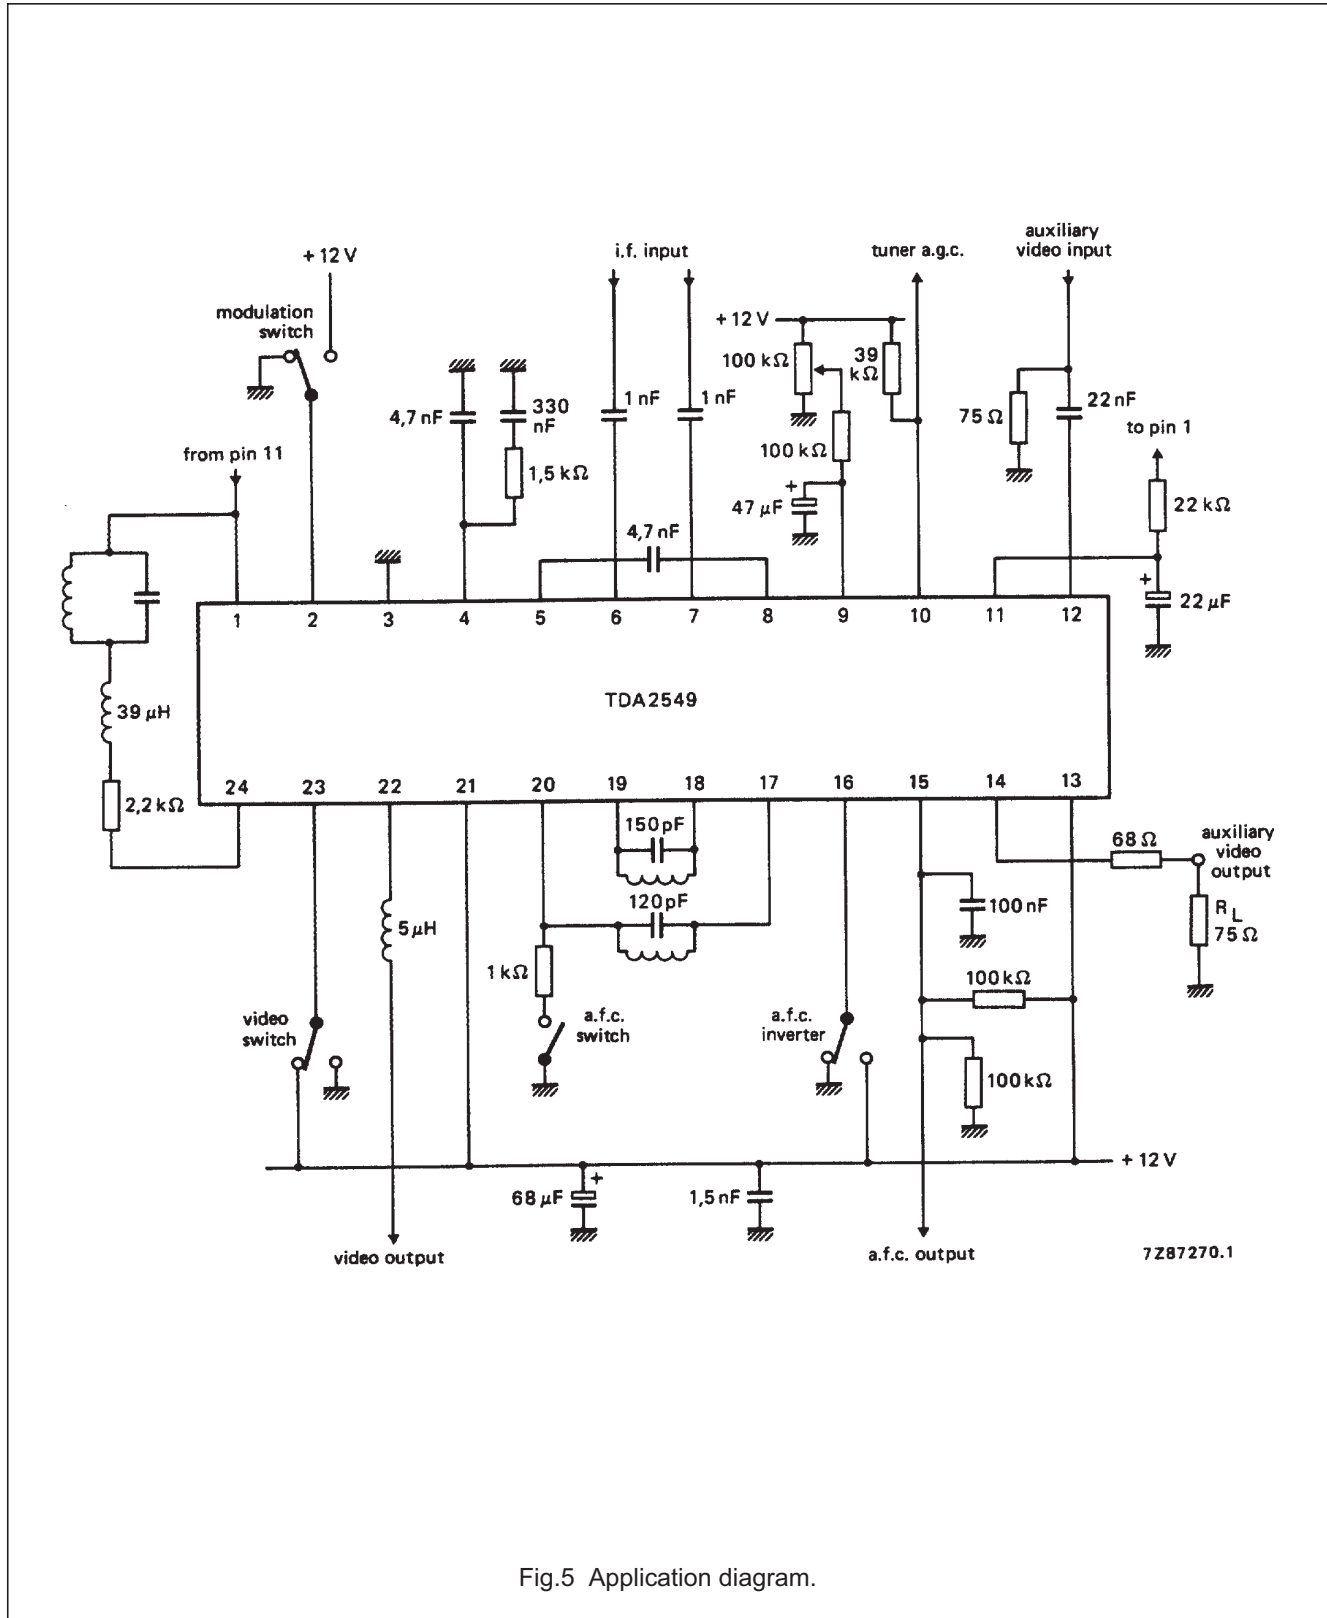

Fig.5 Application diagram.
**CHARACTERISTICS** (measured in fig.5) $V_P = 12\text{ V}$ ;  $T_{amb} = 25\text{ °C}$
- Measured in application of Fig. 5.